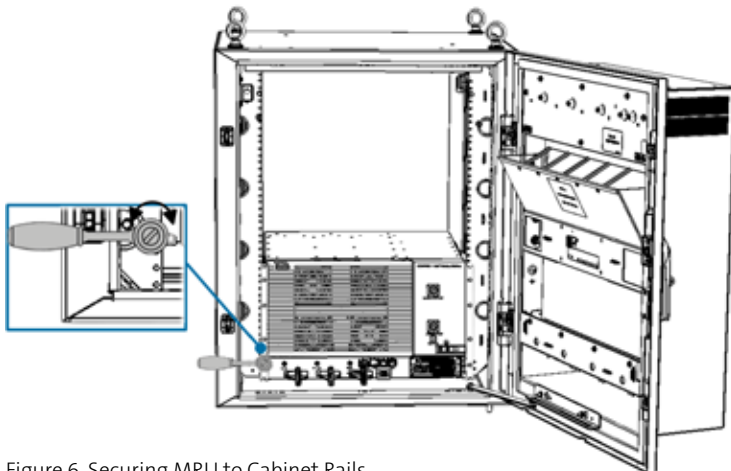

Figure 6. Securing MRU to Cabinet Rails
Step 3: Position the bottom half slots of the MRU rack ears onto the protruding screws and tighten the screws using a ratchet wrench. Refer to Figure 6.